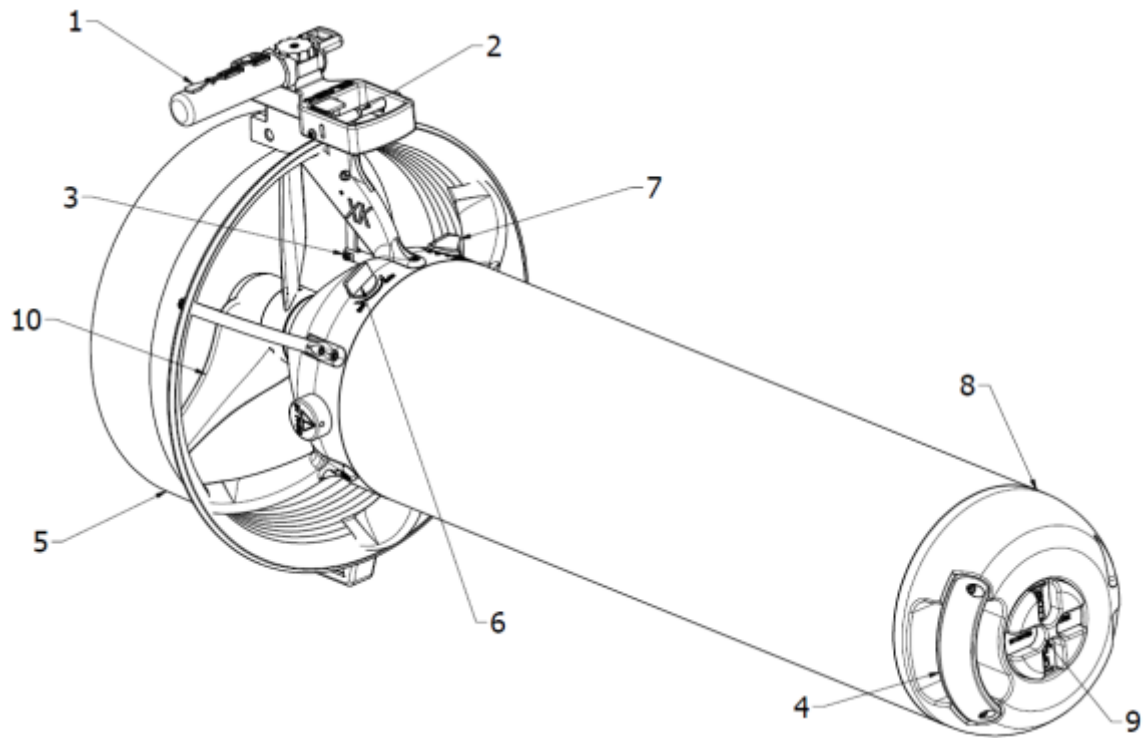

Fig. 1 - Part description
The underwater Scooter (XK - 71382) consists of a perfectly hermetic hollow body, with a hydrodynamic shape, (Fig.1), inside which the electric motor, the rechargeable batteries and the speed reducer necessary to move a propeller that provides a propulsive thrust.
On the front there is a handle (4 - Fig.1) which is used for gripping and lifting the Scooter and the nosecone (8) whose opening gives access to the battery compartment. The opening of the nosecone is possible by turning the closing handwheel (9) counterclockwise.
- Turn the main switch to the ON position (6 - Fig.1);
- Hold the Scooter (by the handle (1));
- Press the trigger (2), the Scooter starts to move;
Turn the front fastening knob (9) counter-clockwise. When rotating the knob the nosecone (8 - Fig.1) starts to lift. Continue rotating the knob until the nosecone detaches from the body.